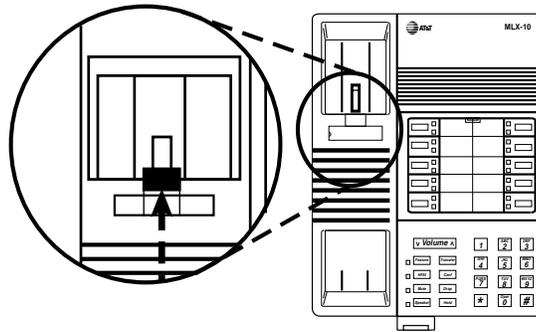

Figure 3-34. Removing the Handset Holder
- a Remove the handset holder by pushing it up and pulling it out. See Figure 3-34.